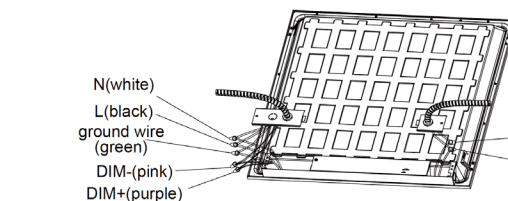

Fig. 5
5. Connect all power and dimming wires according (Fig. 5) *Note: Dimming wires can be connected on either side of fixture*